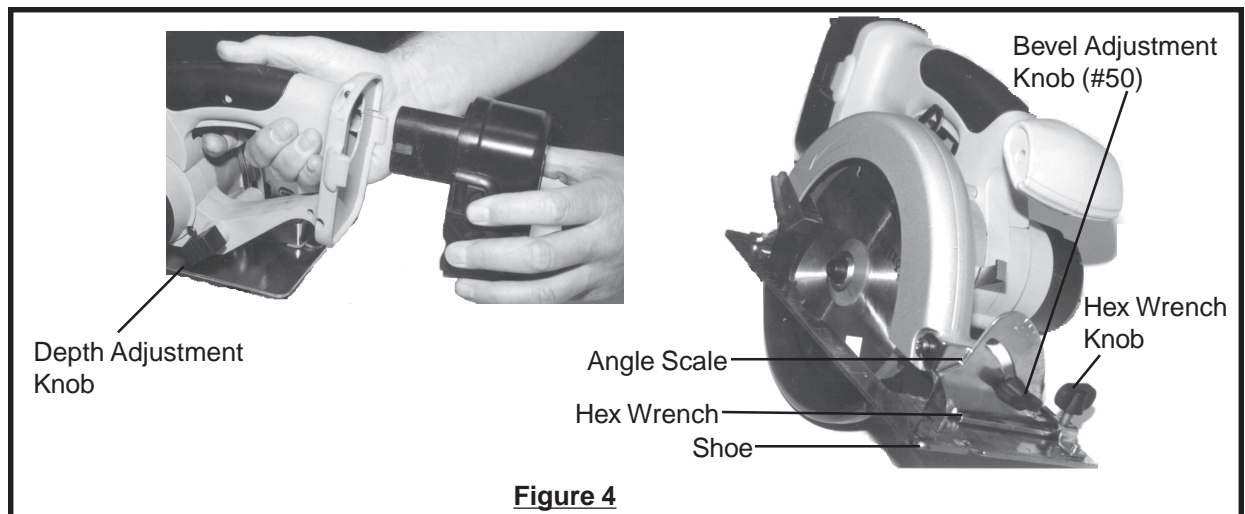

Figure 4
Installing the Cutting Blade - Note: Loosen the Hex Wrench Knob as shown in Figure 4, and remove the Hex Wrench.
Step 7) Slide the Hex Wrench into its storage slot and tighten it into place with the Hex Wrench Knob (See Figure 4).
- Step 1) To adjust the angle of the Saw Blade up to 50° loosen the Bevel Adjustment Knob (part #50) and move the Shoe (part #53) down paying attention to the degrees indicated on the angle scale (See Figure 4). Once set, retighten the Bevel Adjustment Knob (part #50).
- Step 2) To adjust the depth of the cut, loosen the Depth Adjustment Knob (part #7) (See Figure 4). Move the Shoe (#53) down while observing the amount of Saw Blade exposed under the Shoe (#53). Once adjusted, tighten the Depth Adjustment Knob (#7).